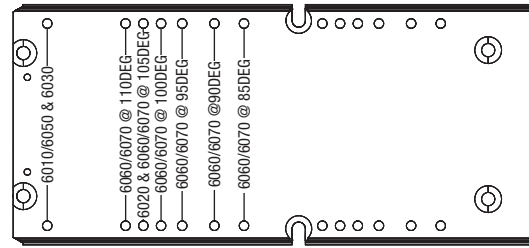
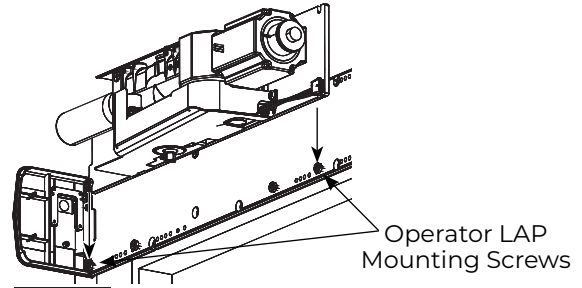

Figure 9
Figure 10
1. With backplate mounted to frame, use text to locate holes along bottom of backplate that correspond to your specific closer installation. (Figure 9)
2. Insert two (2) 1/4-20 x 1/2" Phillips pan head screws into appropriate engraved locations leaving a 5/16" minimum gap between backplate and underside of screw head.
3. Orienting LAP so spring tube of closer is pointed toward hinge edge of frame, slide LAP over two (2) screws and tighten. (Figure 10)